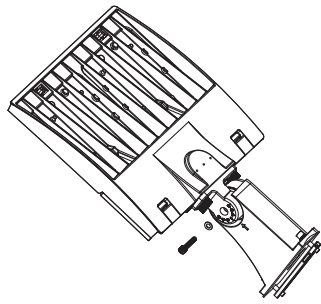

FIG. 2
2. Lock the mounting and housing in place using the supplied M8x25mm machine thread screw, M8 spring washer and flat washer at torque setting 9.6 NM (See Fig. 2 & 3)